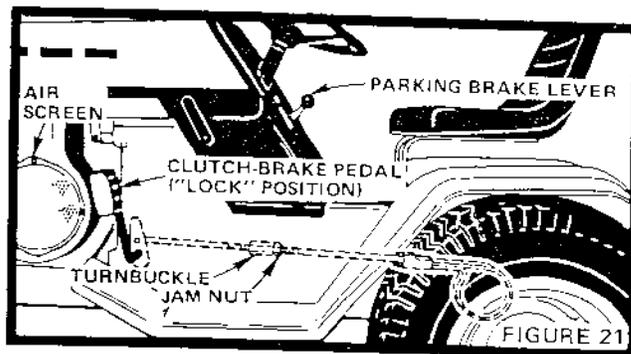

FIGURE 21
Air Screen (Fig. 21) must be kept free of dirt and chaff to prevent Engine damage from overheating.
- Loosen Jam Nut (Fig. 21) to rear of Turnbuckle.